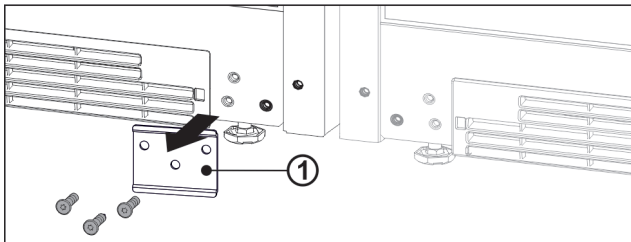

Fig. 11
- If the metal plate Fig. 11 (1) is installed, unscrew the metal plate.